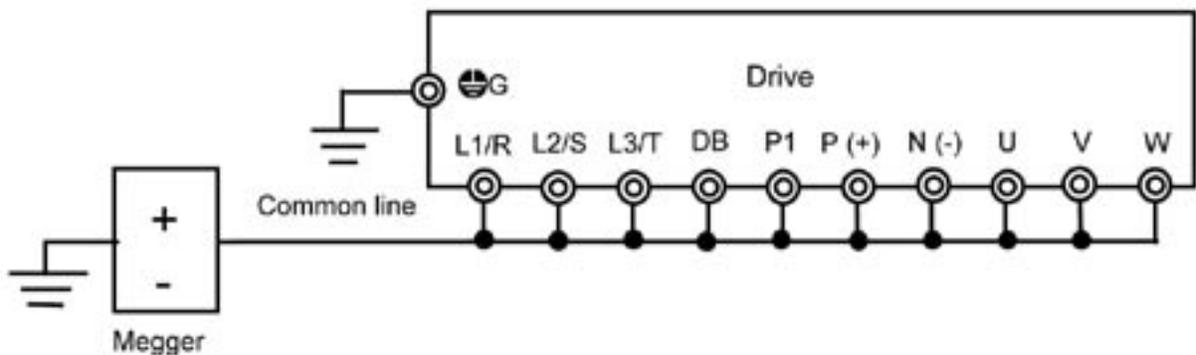

Figure 7.2 Megger Test
- 3) Connect the main circuit terminals using a common cable as shown in Figure 7.2.